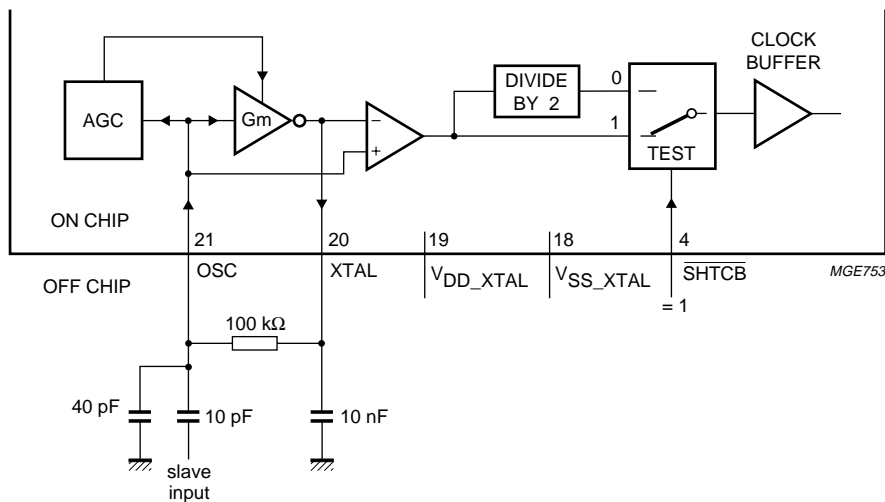

Fig.4 Block diagram slave oscillator circuit.
**The slave oscillator mode:** in this mode (see Fig.4), the oscillator circuit acts as a slave driven by a master system clock. The clock divider can be switched on or off using pin  $\overline{SHTCB}$ . When the divider is not used, the duty cycle of the clock will depend on the master system clock duty cycle and the rising and falling edge times. This places a tolerance of 5% on the 50% duty cycle of the master system clock (see Chapter "AC characteristics").